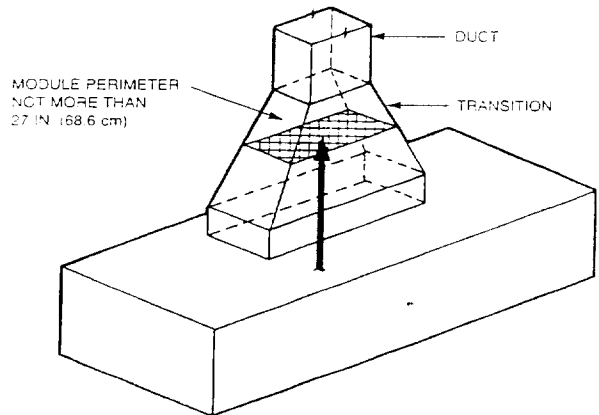

FIGURE 2
- Single Nozzle (One Flow Number) Transition Protection: One 1W nozzle (Part No. 419336) will protect transitions where the perimeter of 27 in. (68.6 cm) or the diameter of 8.5 in. (21.6 cm) or less begins within that transition. The nozzle must be placed in the center of the transition opening where the maximum perimeter or diameter begins as shown in Figures 2 and 3.